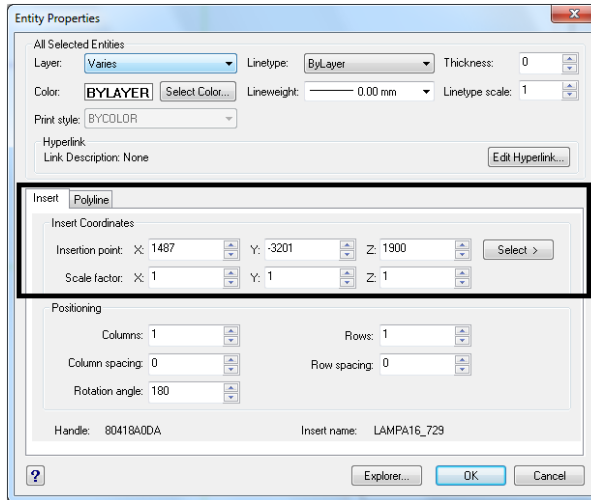

Fig. 118 – Entity Properties dialog
**Entity Properties** dialog box (Fig. 118) contains information about a particular selected entity or entities. If several entities that all have different properties are selected, the default value initially is **Varies**.